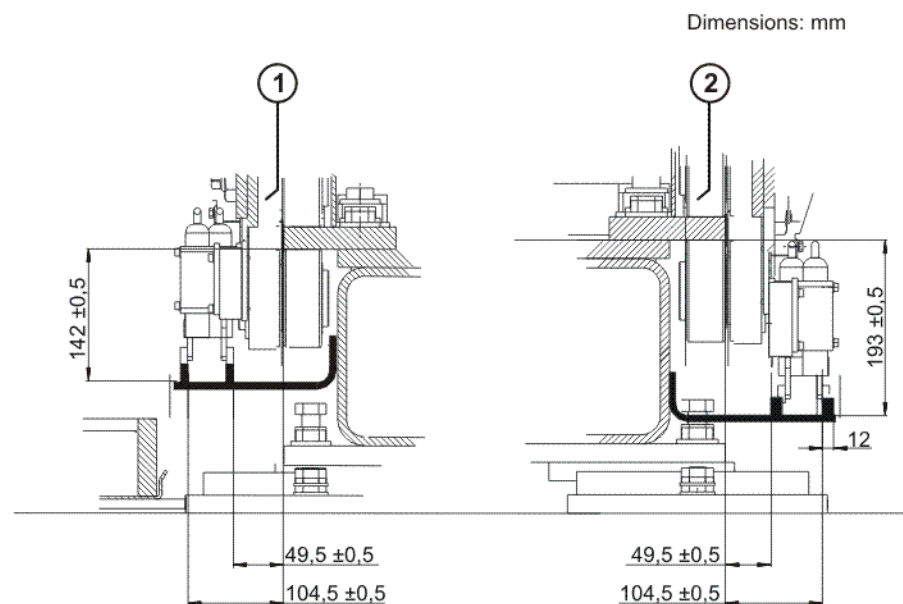

Fig. 14-3: Installation dimensions
2. Mount the brackets, align them and tack-weld them in place. Observe the specified distance from the track. See (>>> Fig. 14-3) for installation dimensions.